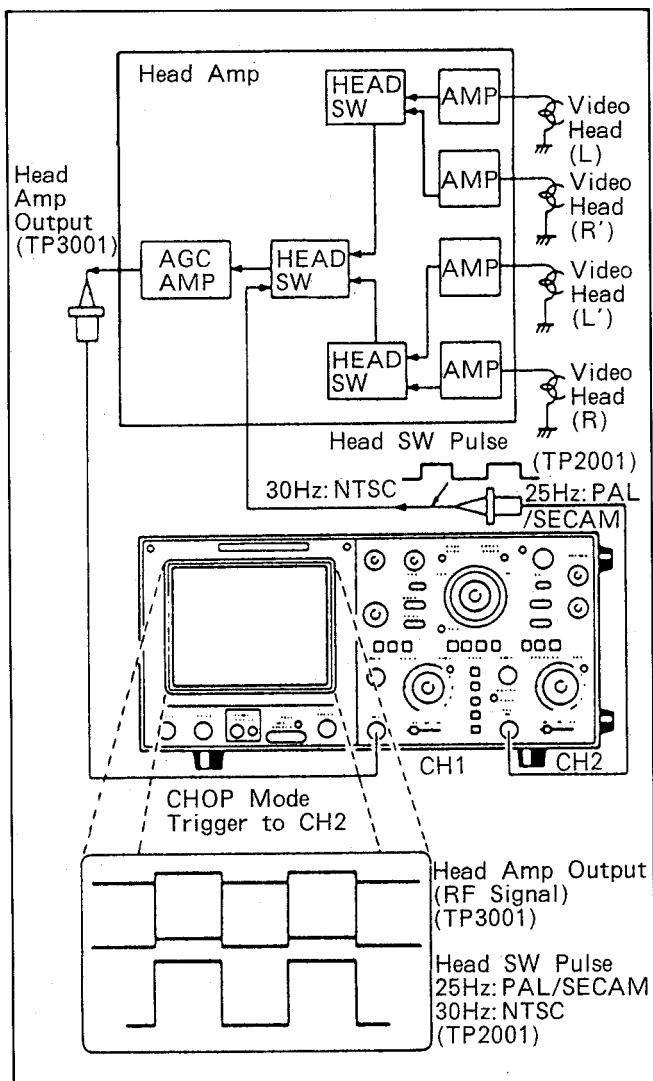

Fig. M7 Connect of Oscilloscope
And connect the oscilloscope to the output of the Head Amp as shown in Fig.M7.
To get a stable waveform of the Head Amp output on the oscilloscope, use the head switching pulse as a triggering signal as shown in Fig.M7.
- 2) Connect the oscilloscope to the output of the Head Amp as shown in Fig.M7.
- 4) Loosen the 2 screws (F) and (G).
- 5) Adjust the A/C HEAD BASE (E) until the RF envelope waveform is maximized.